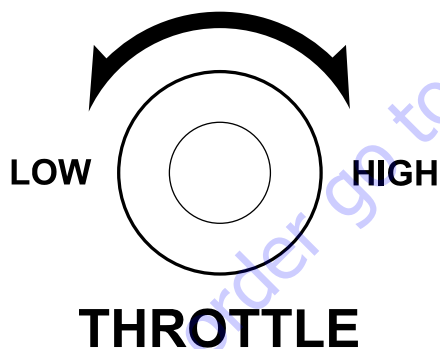

Figure 9. Throttle Knob
2. Move the throttle lever (See Figure 9) Away from the **LOW** position, about 1/3 of the way towards the **HIGH** position.